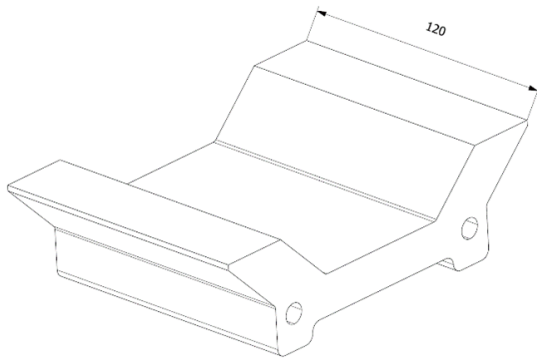
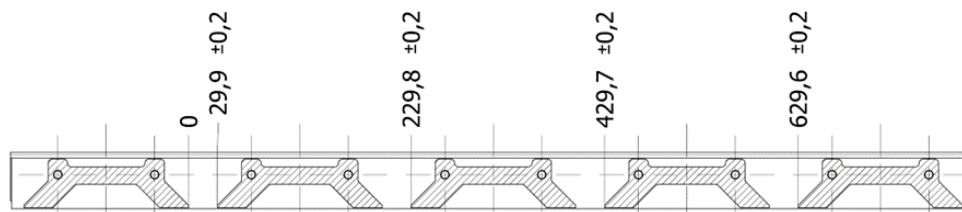

Figure 8: Isometric view of a track block
Figure 10: Cross section of the layout of electrical steel track blocks along the red track
- Magnetically separated track blocks made of M470-50A, whose individual dimensions are presented in Figures 8 and 9. The blocks are placed at a 200 mm pitch, as shown in Figure 10.